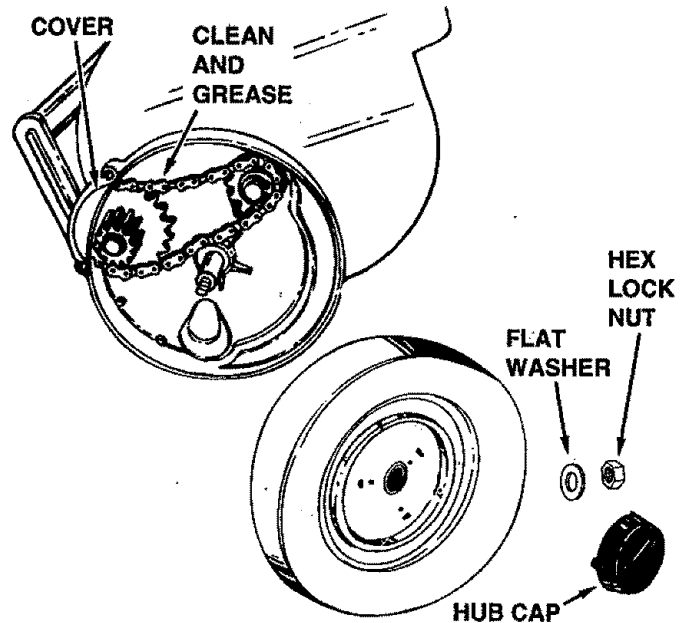

FIGURE 26
- Every two years, remove the wheels and clean the sprockets, chains and gears found inside the wheel housing. After cleaning, lubricate with an even coat of light grease. To remove the wheel, pop off the hub cap using a screwdriver and remove the lock nut and flat washer. See figure 26.